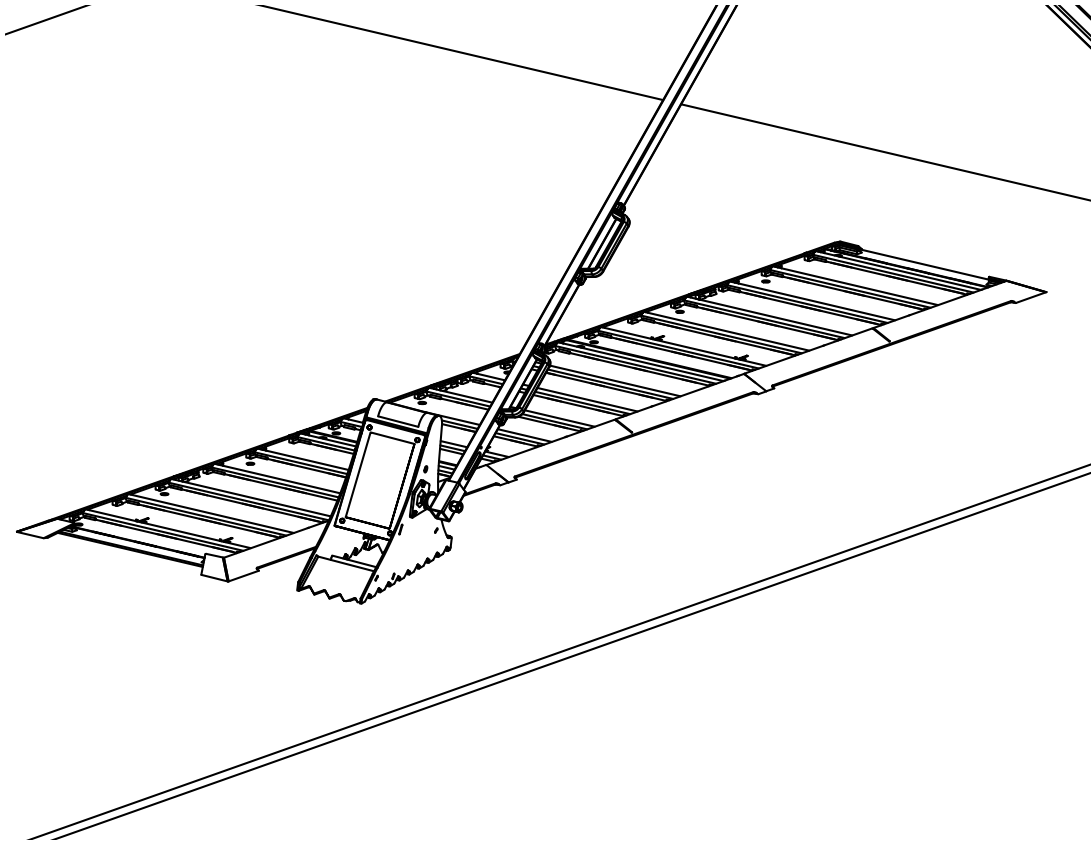

Figure 14
1. Position the chock on the furthest ground plate. See **figure 14**.